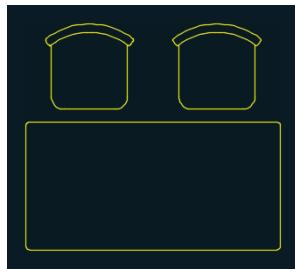

FIGURE 7.11 Copying a block reference
7. Click the Copy tool in the Modify panel, type **L** (for Last), and press Enter twice. Click an arbitrary point on the drawing canvas, type **@2'6<0** (or **@80<0** for metric), and press Enter to copy a chair to the right (see Figure 7.11). Press Esc to end the COPY command.